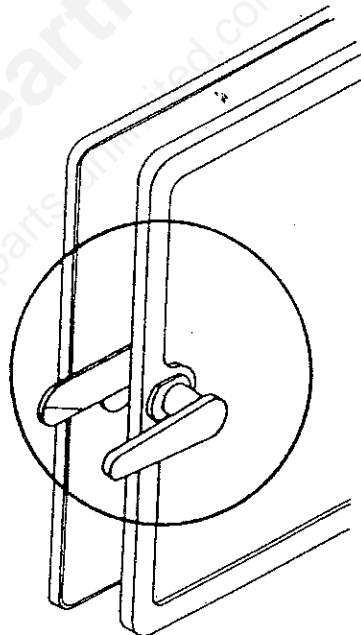

FIG. 16
4. Then to open door, turn the handle counter clockwise to the 9 o'clock position and then continue to pull the door open. (Fig. 16).